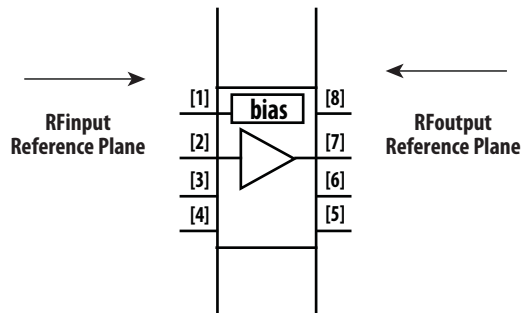

Figure 32.
2. Scattering and noise parameters are measured on coplanar waveguide made on 0.010 inch thick ROGER 4350. The input reference plane is at the end of the RFinpin and the output reference plane is at the end of the RFoutpin as shown in figure 32.